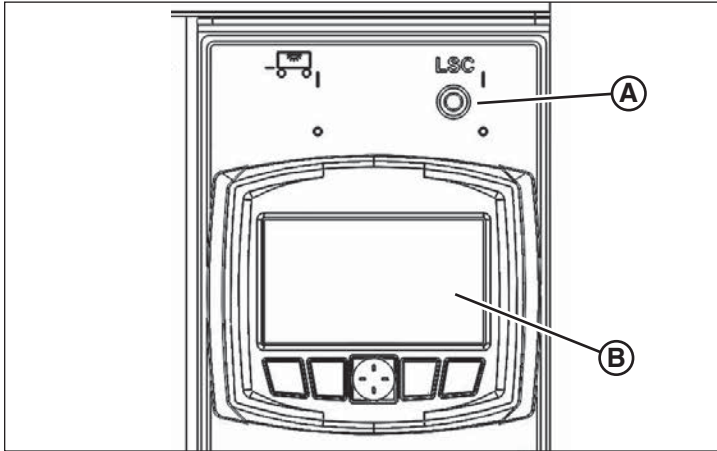

Figure 23
The LSC Engine control panel consists of the main panel on/off switch (A, Figure 23), and LSC control panel with LCD display (B).